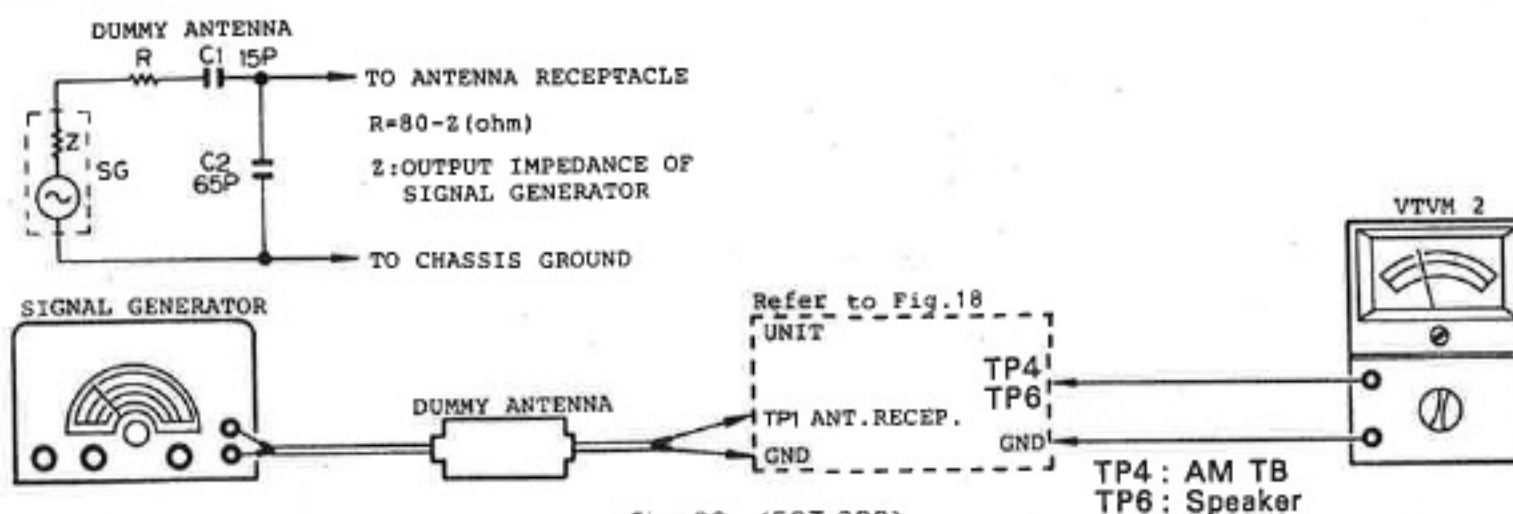

Fig. 20 (EOT-008)
#### (2) Alignment (Refer to Fig. 20)
- (1) Connections Refer to Fig. 20 Signal generator.....connect the **TP 1**
- (1) Connections Refer to Fig. 20 signal generator.....connect the **TP 1**